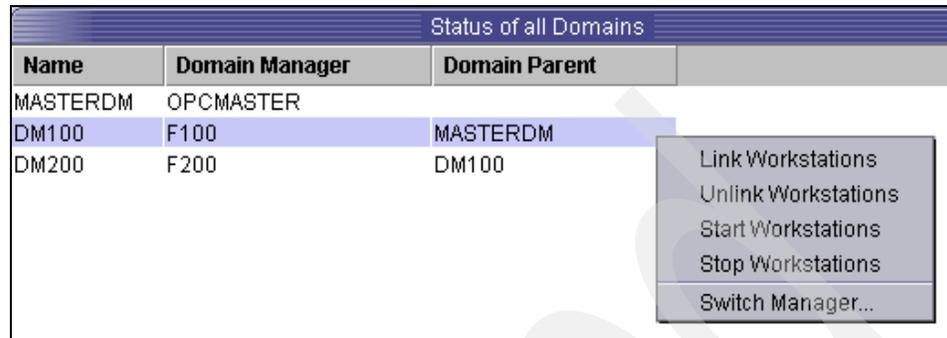

Figure 17-10 Context menu for the DM100 domain
- Right-click the **DM100** domain to open the context menu shown in Figure 17-10, and select **Switch Manager**.